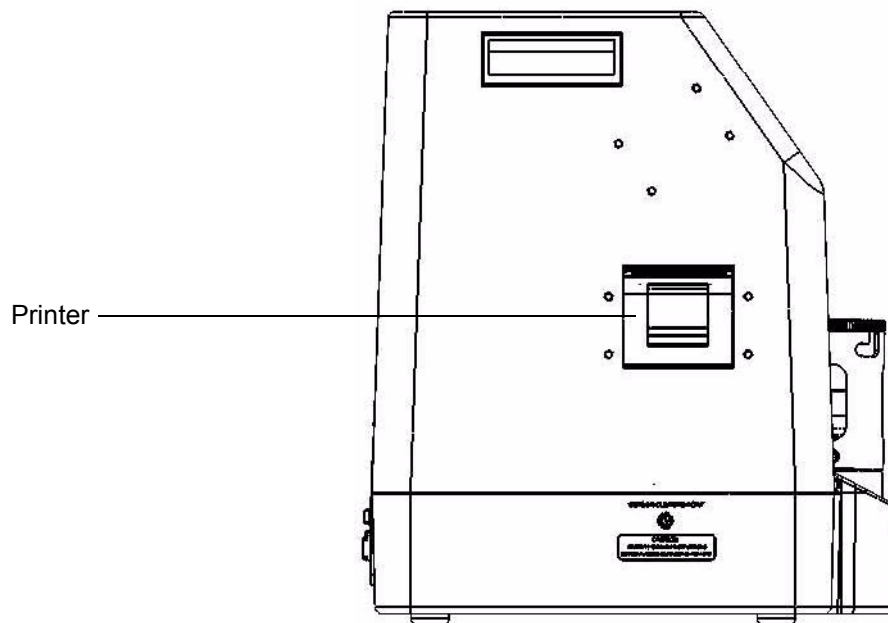

Fig 2-8 : 9705 Left Side View
The 9705 features an internal printer located on the left side of the unit for easy printing of records, shown in Figure 2-8. Print procedures are described in detail in “Setting Print Results” on page 38.
- 1) Locate the printer on the left of the unit, shown in Figure 2-8.